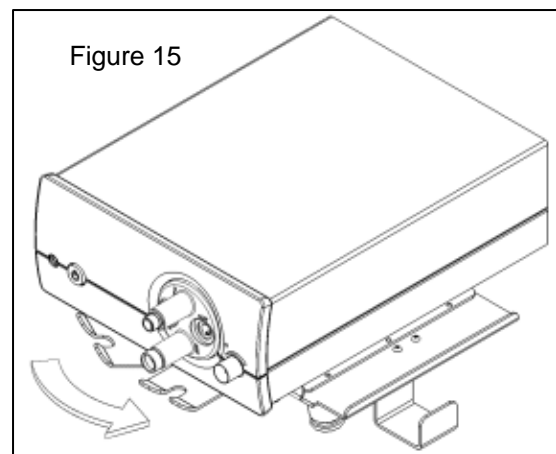

Figure 15
2. Slide the interlocking adapter plate to the lock position. The plate plunger will snap into the locked position as shown in Figure 15.